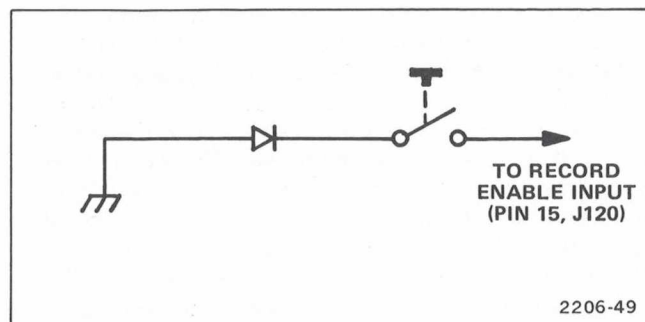

Figure 2-6. Suggested method for assembling a remote Manual Reset button.
**RECORD ENABLE.** A HI ECL level input pulse forces reset of the memory. When the front-panel MANUAL RESET button is pushed, a HI output level is produced. A remote Manual Reset button can be assembled as shown in Figure 2-6.